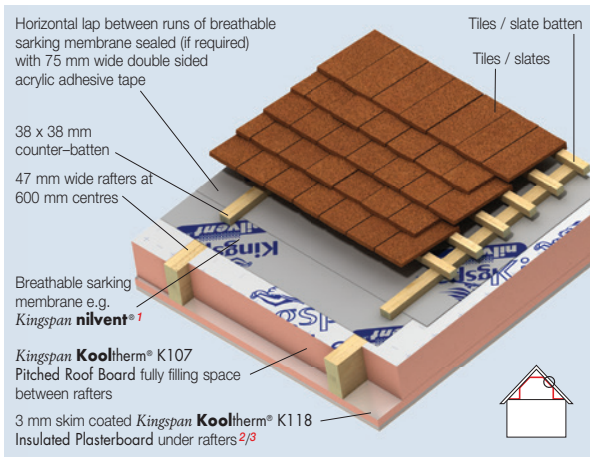

Figure 1a
*NB When calculating U-values to BS / I.S. EN ISO 6946: 2007, the type of mechanical fixing used may change the thickness of insulation required. The effect of fixings for Kingspan **Kooltherm**® K118 Insulated Plasterboard in the U-value calculations for Figures 1a, 1b, 1c, 1d, 2a, 2b, 4a & 4c is insignificant as the insulation layer penetrated is not the main insulation layer. The U-value calculations for Figures 3a & 3b assume that over rafter layers of insulation are fixed using stainless steel fixings with a cross sectional area 7.9 mm², with 3.7 fasteners per m² (insulant thickness 0–40 mm), 6.2 per m² (insulant thickness 41–60 mm), 8.3 per m² (insulant thickness 61–80 mm) and 10.0 per m² (insulant thickness 81–100 mm). The U-value calculations for Figures 3a & 3b also assume that over rafter layers of insulation are fixed using stainless steel fixings with a cross sectional area 9.1 mm², with 11.1 fasteners per m² (insulant thickness 101–125 mm). Please contact the Kingspan Insulation Technical Service Department (see rear cover) for project calculations.*
- ¹ In Figures 1a & 3a the breathable sarking membrane can be placed over the counter-battens, draped to provide for drainage and overlain with tile / slate battens. This will yield a marginally better U-value but it will be more difficult to seal the breathable sarking membrane effectively.